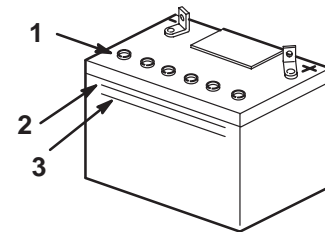

Figure 36
- Look at the side of the battery. The electrolyte must be up to the Upper line (Fig. 36). Do not allow the electrolyte to fall below the Lower line (Fig. 36).
- Remove the vent caps from the battery (Fig. 36).
- Slowly pour distilled water into each battery cell until the electrolyte level is up to the Upper line (Fig. 36) on the battery case.
5. Wait five to ten minutes after filling the battery cells. Add distilled water, if necessary, until the electrolyte level is up to the Upper line (Fig. 36) on the battery case.